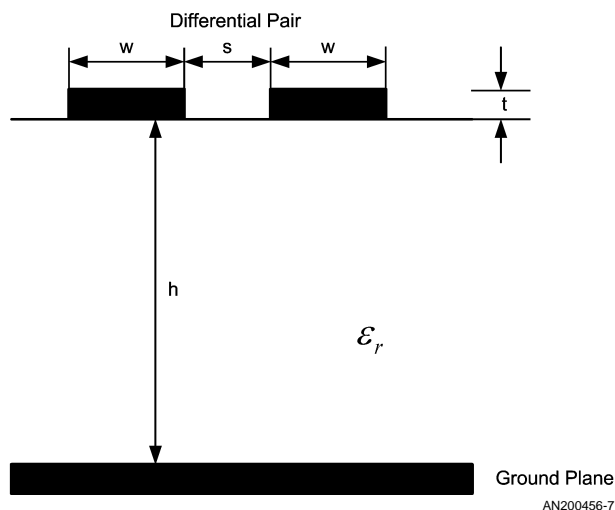

FIGURE 7. Dimensions for Calculating Microstrip Impedance
The equations that govern the characteristic impedance for microstrip are given below. Equation (1) gives the impedance of single-ended trace and Equation (2) gives the corresponding differential impedance. All the equations are based on the dimension definitions shown in Figure 7 with ϵ_r representing the dielectric constant of the PCB material (typically between 4.0 and 4.5 for FR4). The space between one differential pair and the next should be at least 2s in order to minimize interaction from one pair to the next.